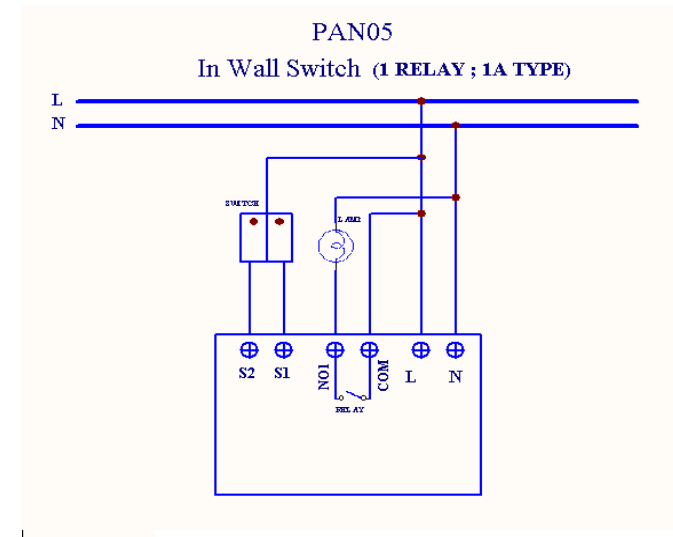

Fig 1. Assembling and wiring
2. Connect the wall switch to the PAN05 as Fig1.